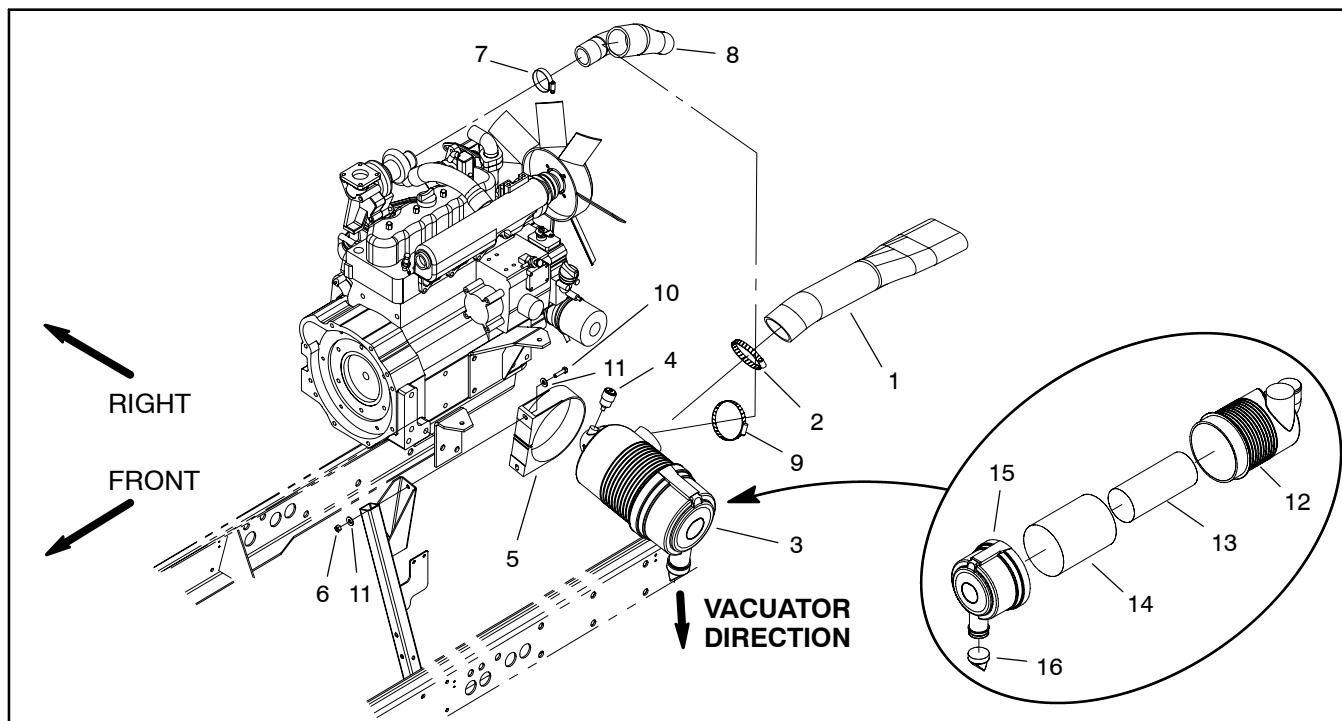

Figure 3
1. Remove air cleaner components as needed using Figure 3 as a guide.
1. Assemble air filter system using Figure 3 as a guide.